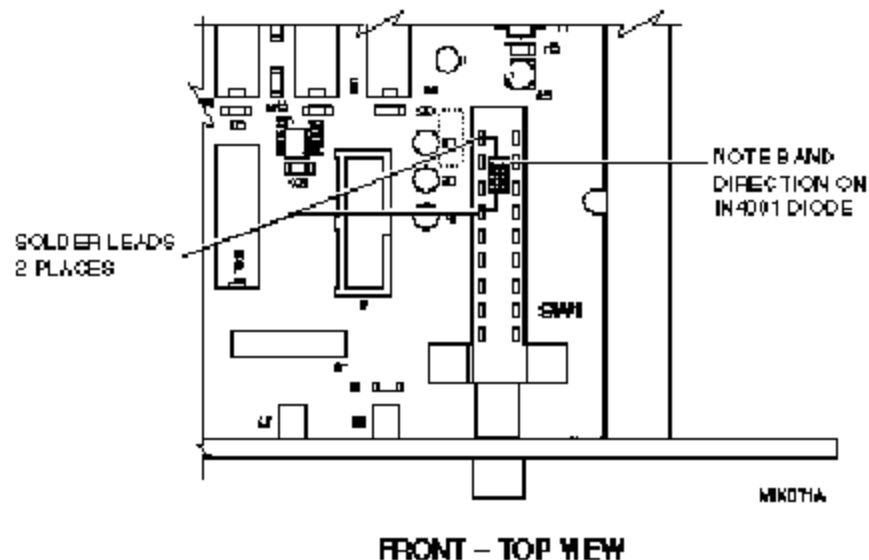

Figure 2. Power Switch Diode Position
4. Solder a 1N4001 diode between the power switch terminals as shown in Figure 2. Be careful to correctly position the diode so that the white banded end of the diode is pointing towards the rear of the System Unit.